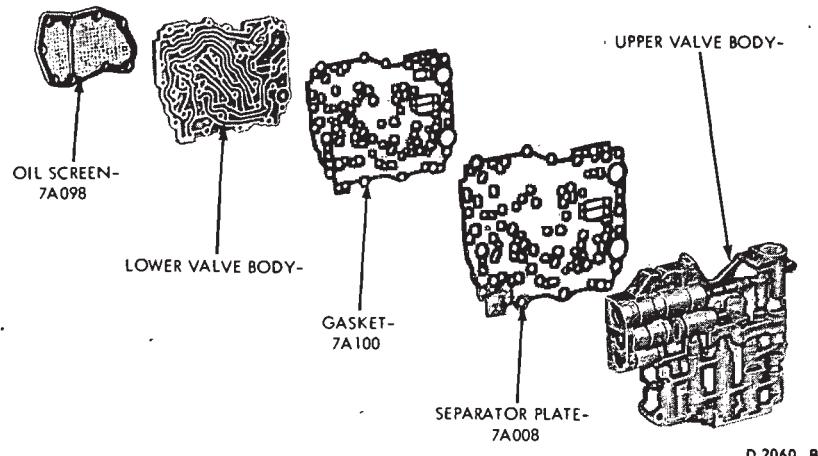

FIG. 65—Upper and Lower Valve Bodies Disassembled—C4S Semi-Automatic
tach the oil screen to the body and remove the screen (Fig. 65).
14. Secure the oil screen (Fig. 65) to the body with the eight attaching screws. Torque the screws to specifications.